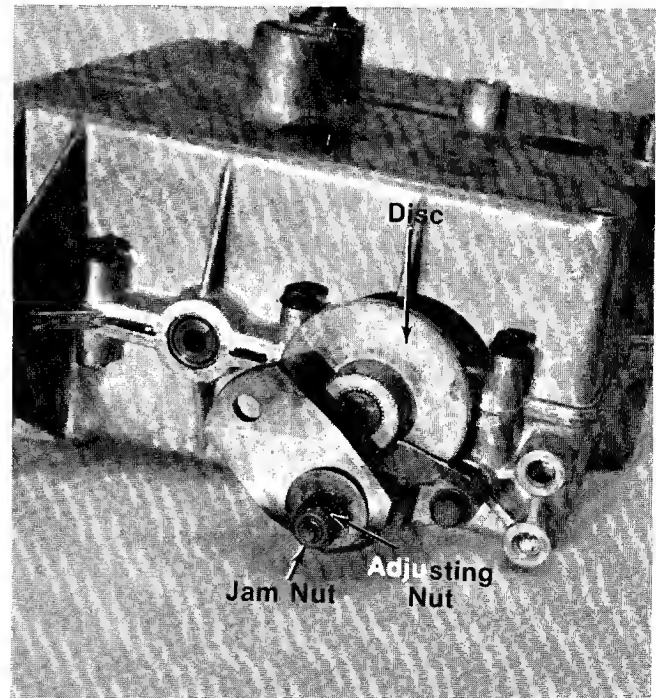

FIGURE 22.
1. Loosen the jam nut. (See figure 22.)